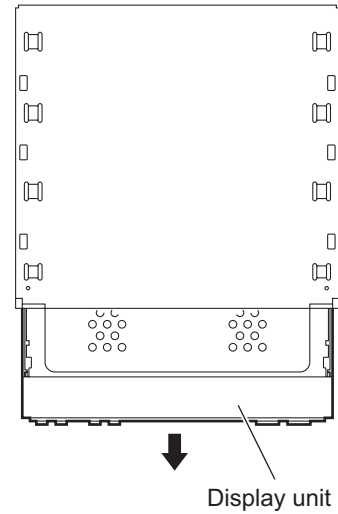

Fig.1
3.1.1 Removing the display unit (See Fig.1)